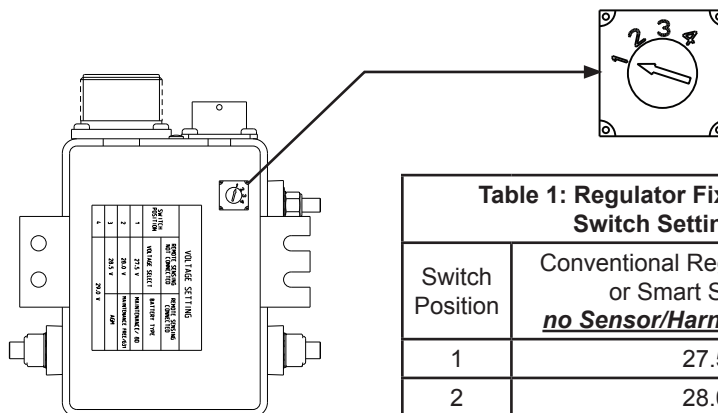

Figure 2: Regulator Voltage Selection Switch
- **Adjustable voltage** set points via 4-position switch at bottom of regulator (See Figure 2 and Table 1).